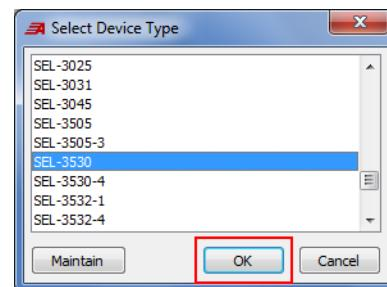

Figure 168 Add SEL-3530 Device Type
- Step 8. Right-click the **RTAC Listening** folder, select **Add > Device**, and add the **SEL-3530**, as shown in *Figure 168*.